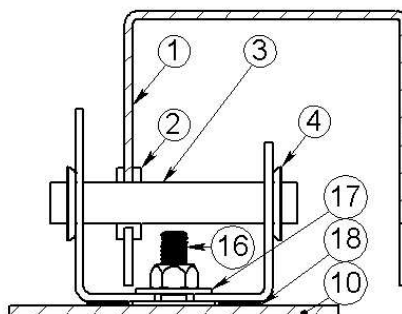

Figure 3D.
- The RSM (Rock Solid Metal) system is used in cases when thick metal plate is proposed by the architect for the cladding of the wall (Figure 3D). Metal panels are attached to the SMART FLEX support frame by means of welded pins.